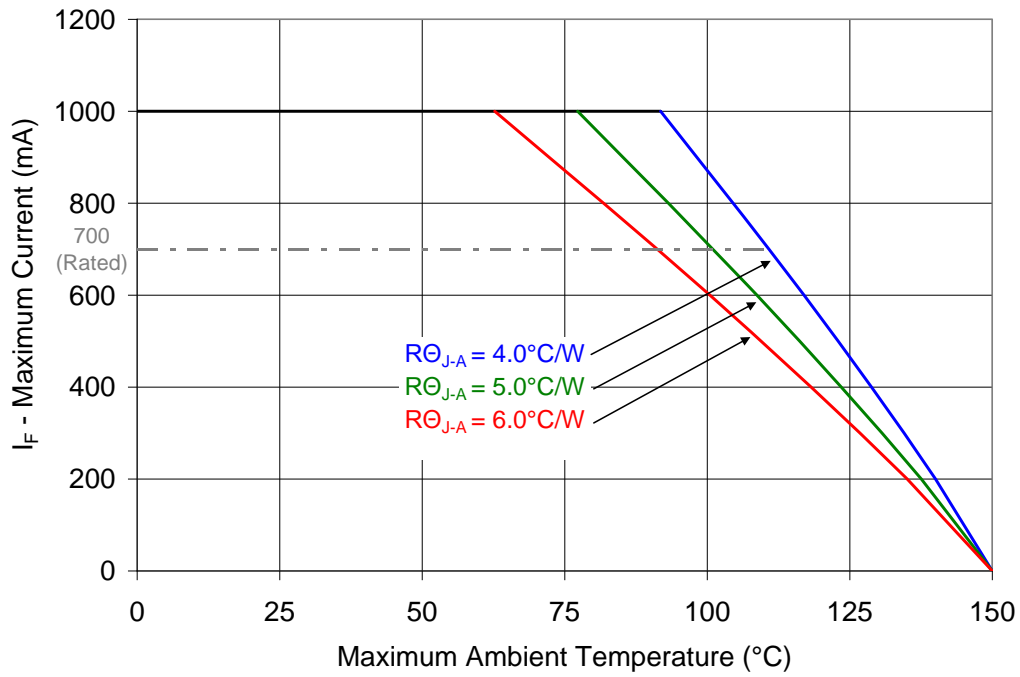

Figure 10: Maximum forward current vs. ambient temperature based on  $T_{J(MAX)} = 150^{\circ}C$ .
- Maximum DC forward current is determined by the overall thermal resistance and ambient temperature. Follow the curves in Figure 10 for current derating.
Notes for Figure 10: